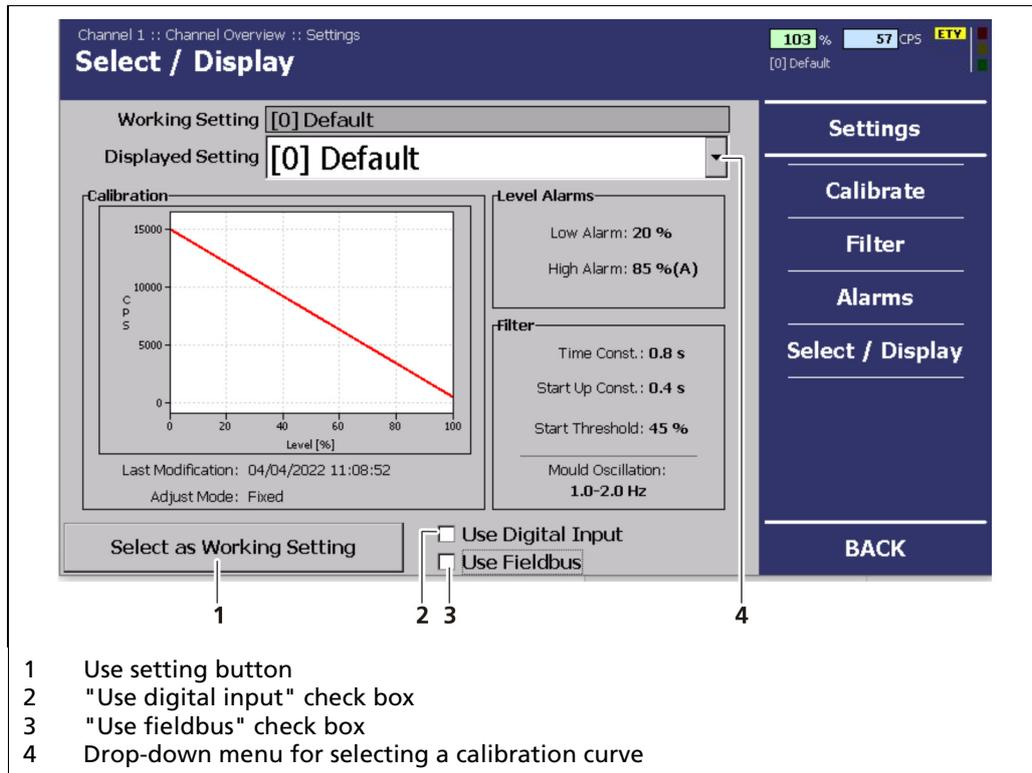

Fig. 65 "Channel Overview" Menu, Settings- Select/Display
In the "Channel Overview" menu, click on e.g. In/Outputs | Analogue IO | Current Output 2 (Fig. 65, Item 8).
Do not activate the "monitoring" (Fig. 65, Item 5) until the measurement has been fully wired. By doing so you will avoid the error alarm.
2. Click on **<Calibration>** (Fig. 65, Item 7).